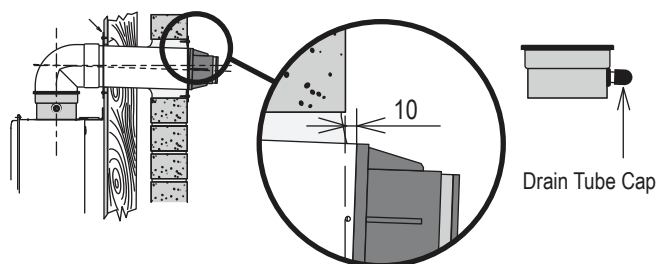

Fig. 8
5. Measure the required length for the horizontal terminal to penetrate the wall and allow an extra 10mm protrusion from the wall outer surface as shown in Fig. 8. See the section "Cutting The Flue Components" on page 5 for correct cutting requirements.
9. For a this type of installation ensure the drain tube cap remains fitted in place (Fig. 8).